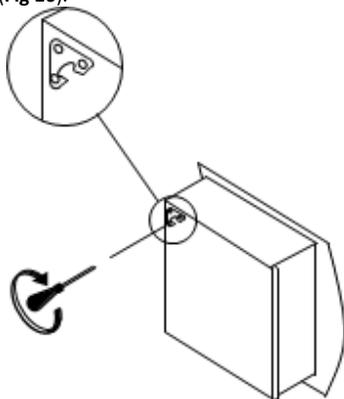

Fig 16
5. Unscrew the 2 screws from the wire holder plate (Fig 16).